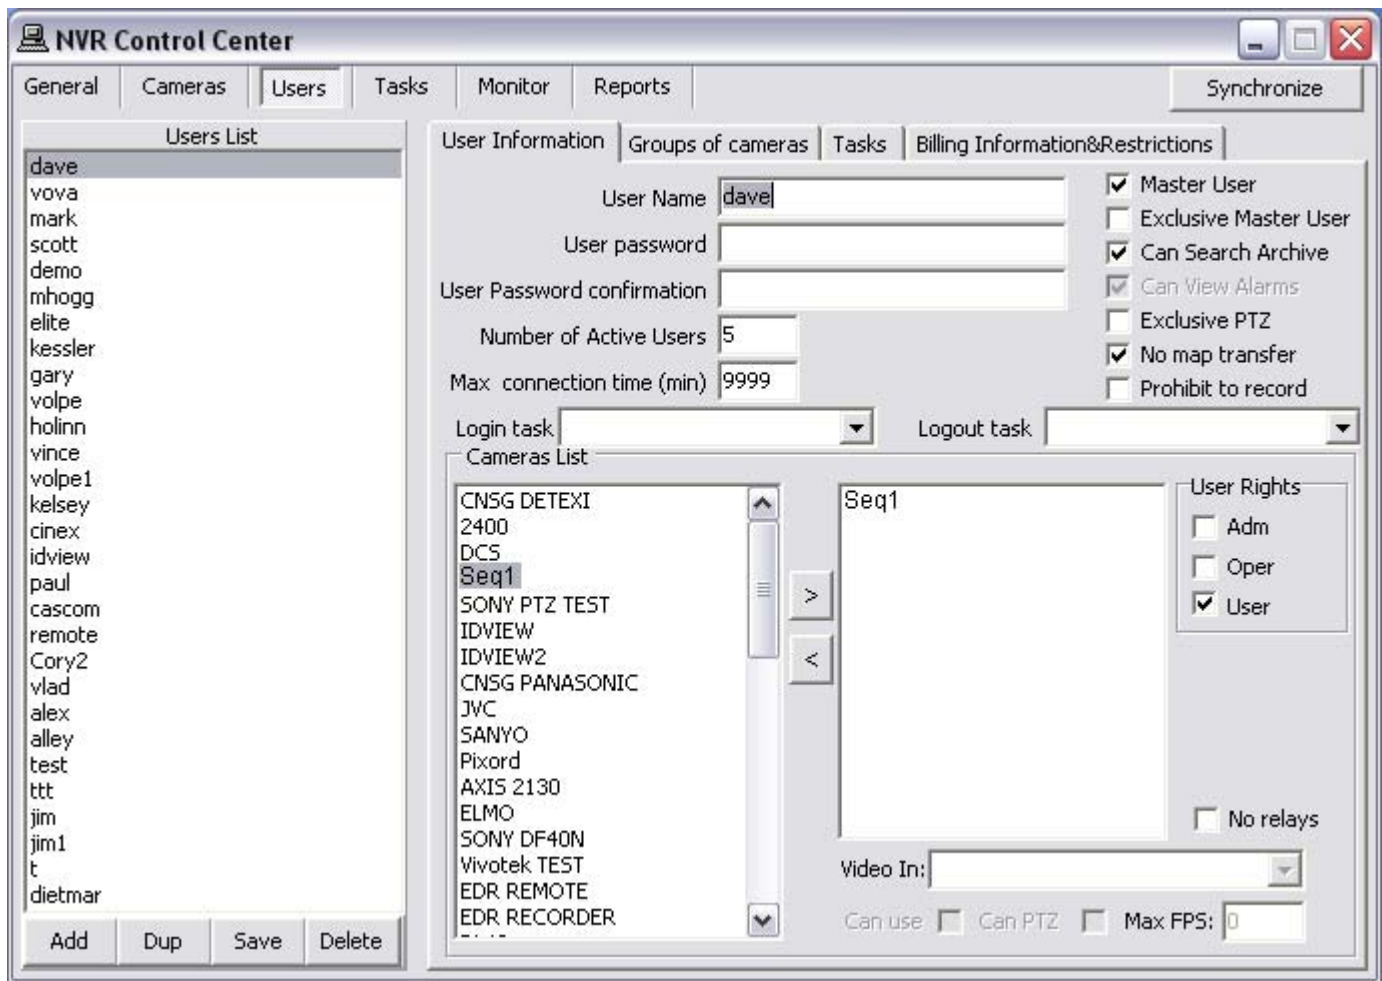

Fig 43. NVR Control Center — Users — User Information
1. In the **NVR Control Center — Users** select a user from the **Users List** (Fig 43).